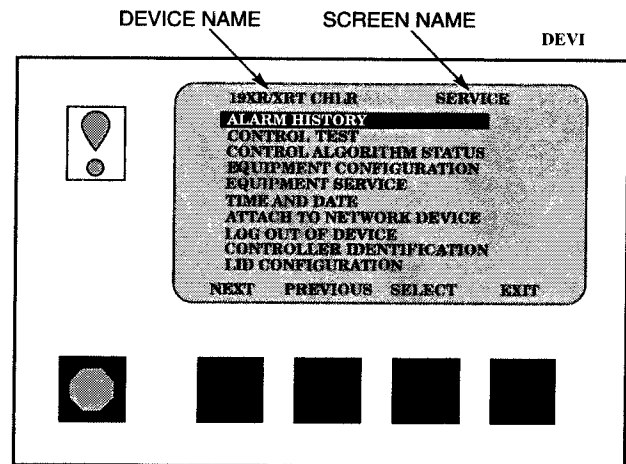

Fig. 13 — LID Service Screen
- If a screen other than the default screen is displayed on the LID, the name of that screen is in the upper right corner (Fig. 13).